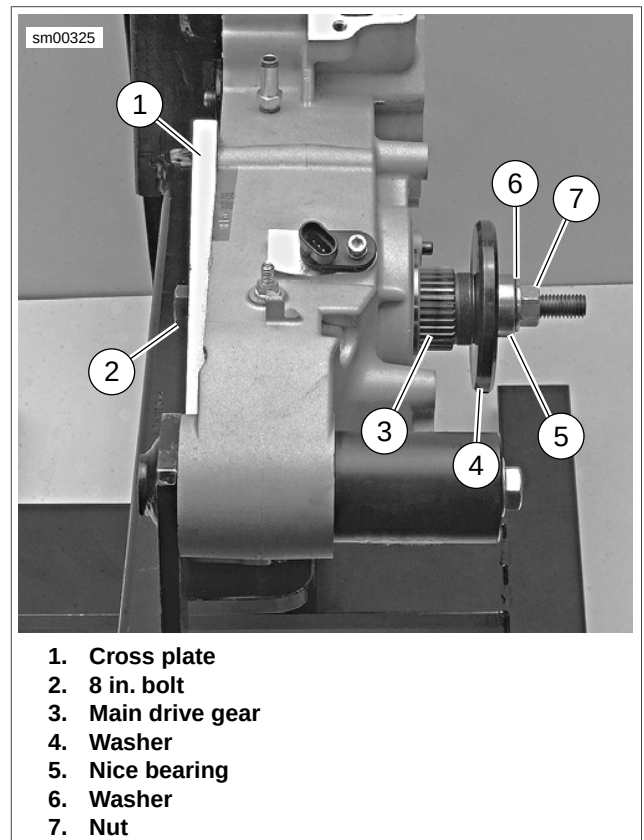

Figure 6-69. Removing Main Drive Gear Bearing (Typical)
5. See Figure 6-69. Insert bolt (2) through cross plate (1) and main drive gear (3).
6. At outside of case, place WASHER (Part No. HD-35316-7) (4), nice bearing (5), flat washer (6) and nut (7) over end of bolt. Tighten nut until main drive gear is free.
2. See Figure 6-69. From inside crankcase, position BEARING DRIVER (Part No. HD-35316-9) (2) over main drive gear bearing.
3. Insert 8 IN. BOLT (Part No. HD-35316-4A) (1) through bearing driver and bearing.
4. At outside of case, slide RECEIVER CUP (Part No. HD-35316-11) (3) onto bolt and over bearing. Install nice bearing (4), flat washer (5) and nut (6) over end of bolt.